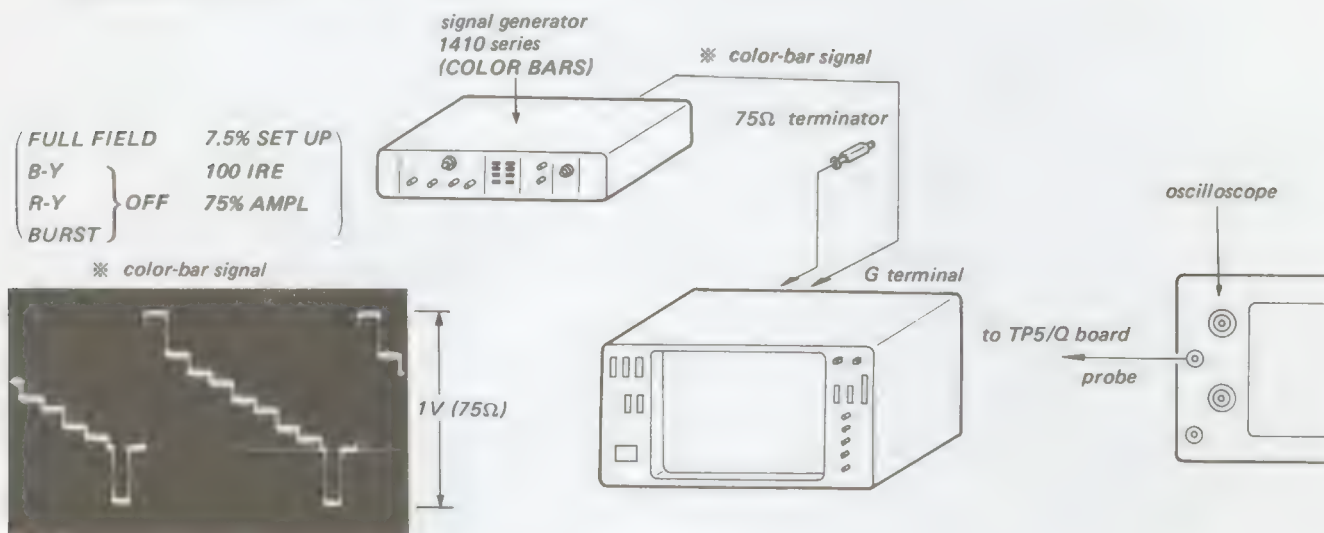

Fig. 5-36.
1. Complete the connections as shown in Fig. 5-36.